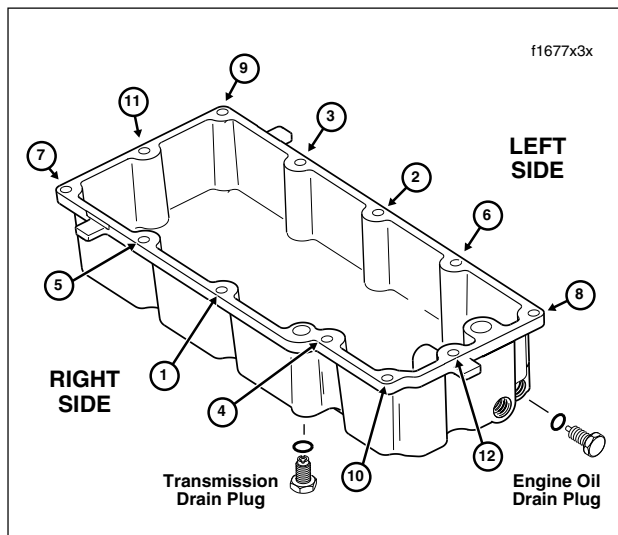

Figure 3-16. Oil Pan Torque Sequence
- c. Locate oil drain plug at front of the oil pan. See Figure 3-16. Remove the plug and allow oil to drain completely.
- d. Locate transmission drain plug on right side of the oil pan. See Figure 3-16. Remove the plug and drain the transmission lubricant into a suitable container.
- e. Alternately loosen and then remove the twelve allen head socket screws to release the oil pan from the transmission housing. Follow the pattern shown in Figure 3-16.
5. Alternately tighten the oil pan screws to 84-108 **in-lbs** (9-12 Nm) following the pattern shown in Figure 3-16.